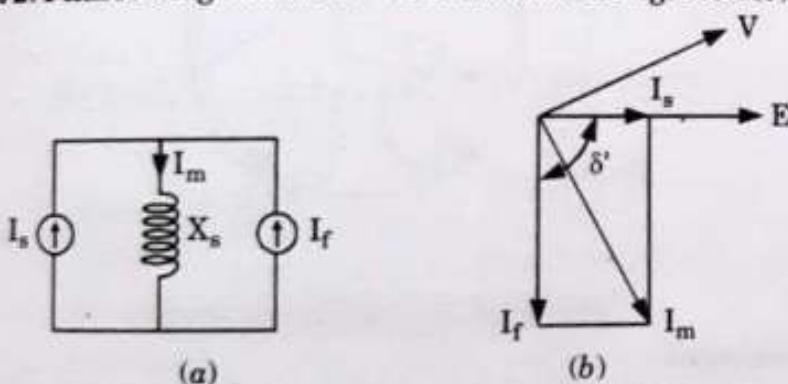

Fig. 4.6.2. Equivalent circuit and phasor diagram.
- Fig. 4.6.2(a) is the Norton's equivalent of the PMAC motors.
- For a given value of I_s , maximum torque can be obtained when $\delta' = \pi/2$. Phasor diagram for $\delta' = \pi/2$ is shown in Fig. 4.6.2(b).